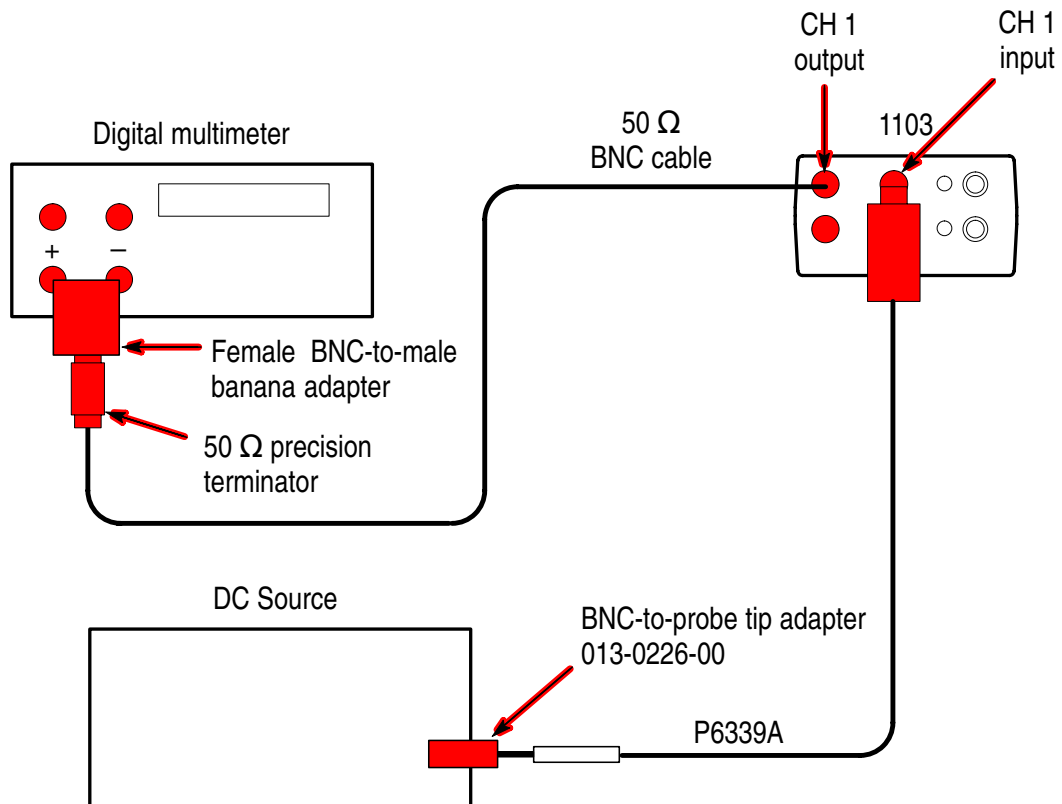

Figure 12: Setup for DC attenuation accuracy
1. Connect the probe as shown in Figure 12.